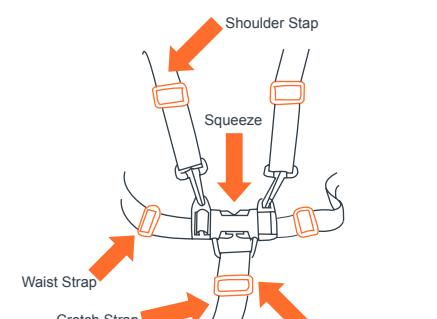

Fig. 13b
- Carefully place the child in the stroller seat and bring the safety harness around the child's waist and over the shoulders. Place the crotch strap between the child's legs. Insert the male end of each shoulder/waist belt into the buckle on the crotch strap. Tighten the harness to be snug around the child's waist and over the child's shoulders (Fig. 13b).